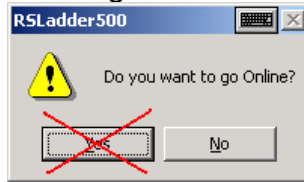

Figure 2 -- Online Dialog Rev 5.0
- When the dialog box in Figure 2 appears, touch “No”. If this question is answered incorrectly, recovery requires shutting down and restarting the DAqPC.